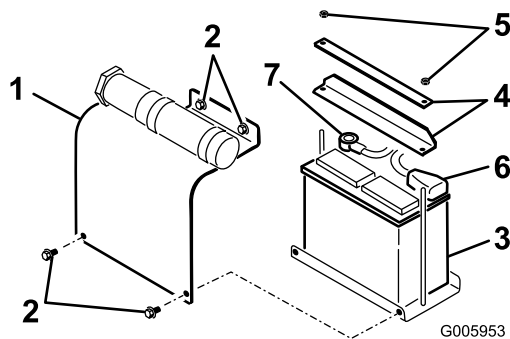

Figure 34
2. Remove the battery cover (Figure 34).
1. Remove the nuts and bars securing the battery (Figure 34).
2. Disconnect the negative (black) cable to the negative (-) battery post (Figure 34).
3. Disconnect the positive (red) cable to the positive (+) battery post (Figure 34).
1. Install the battery onto the platform (Figure 34).
2. Secure the battery in the chassis with the bars and nuts removed previously (Figure 34).
3. Connect the positive (red) cable to the positive (+) battery post (Figure 34). Slide the rubber cover over the battery post.
4. Connect the negative (black) cable to the negative (-) battery post (Figure 34).
5. Install the battery cover (Figure 34).